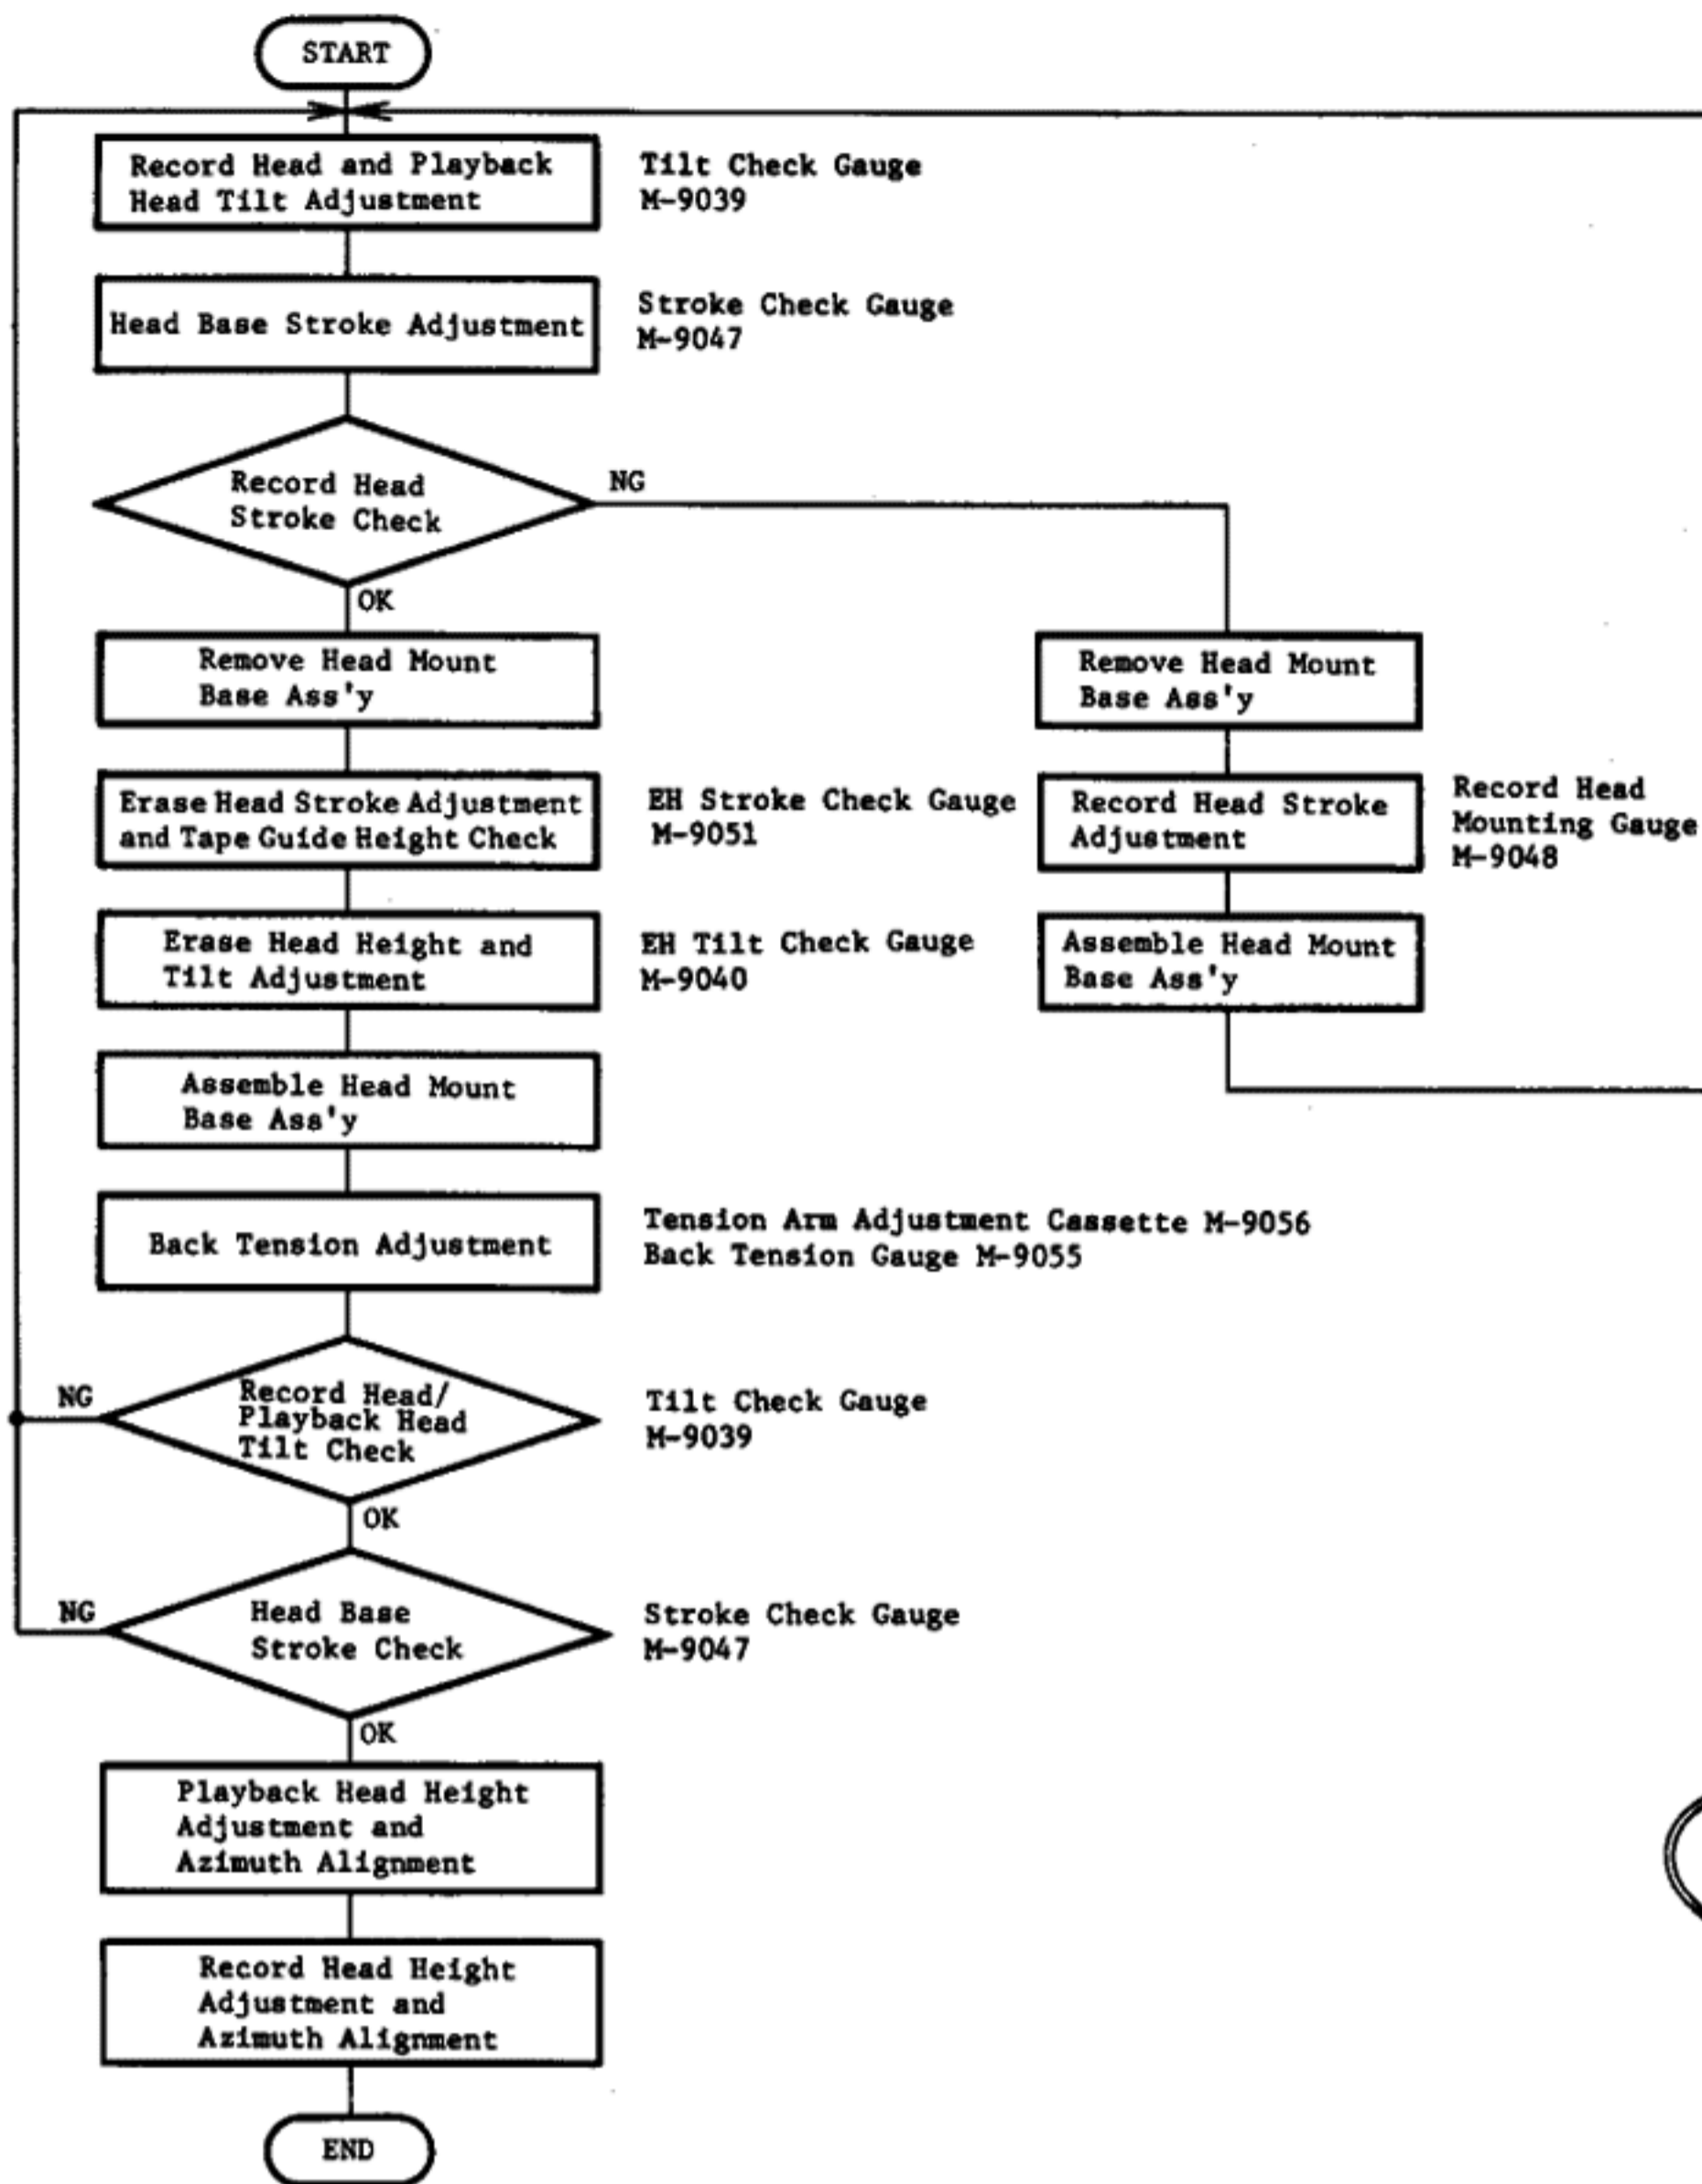
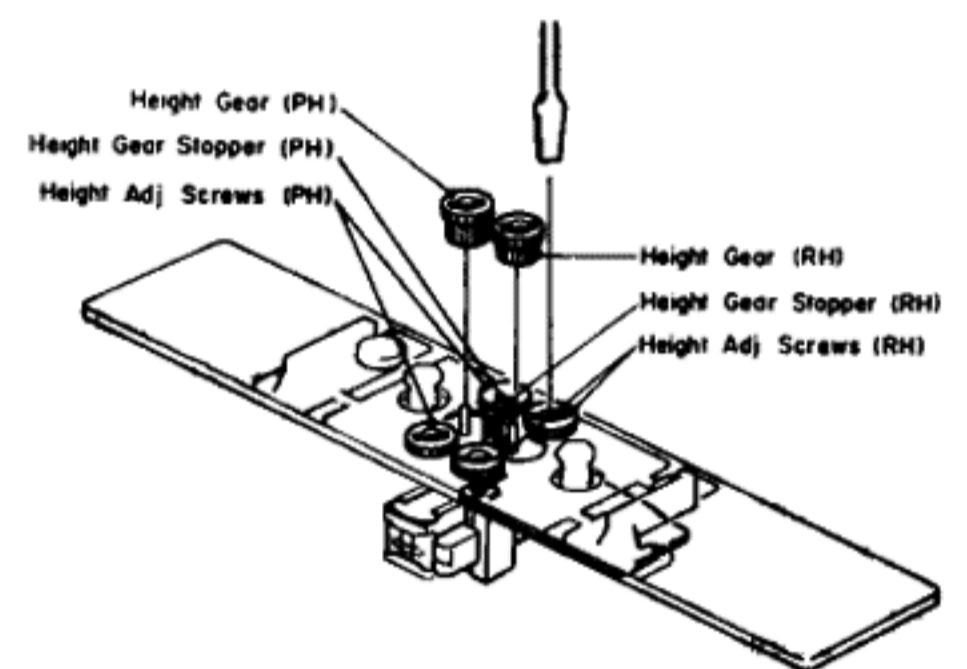

Fig. 2.2
Fig. 2.3
Note: On items 2.3 - 2.9, refer to Fig. 2.2 flow chart. Refer to Figs. 2.3 and 2.4.
(1) Load a Tilt Check Gauge M-9039 (DA09039A) in the cassette deck.
(2) Clip the grounding terminal of the Tilt Check Gauge with one end of the cord with clip, and the chassis of the cassette deck with the other end.
(3) Remove both of the Height Gears.
(4) Set the cassette deck in Play mode. Check to insure whether the Beacons Playback Head "Upper" or "Lower" and Record Head "Upper" or "Lower" are illuminating. In order not to give damages onto the head surfaces, push both of slide knobs of the Gauge to the direction of arrow marks, then return them to the original place to be in contact with record head and playback head surfaces after Play mode is securely locked.
(5) Check to insure freedom from contact between the Gauge and pad lifter.
(6) Beacon Playback Head "Lower" will light on when height adjustment screw (P) turned clockwise but Playback Head "Upper" when counterclockwise. Adjust so that both "Upper" and "Lower" will light on even when you move the slide knob to the direction of an arrow mark and then return it to the original place.
(7) Same procedures will apply to the Beacons Record Head "Upper" and "Lower", except for the height adjustment screw (R).
(8) Set the cassette deck in Stop mode and fit both of the serrated Height Gears. Then set the cassette deck again in Play mode and insure all of the 4 Beacons are illuminating. If not, (3) through (7) will have to be repeated till satisfactory results are obtained.